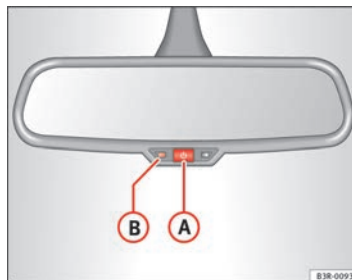

Fig. 104 Interior mirror with anti-dazzle setting: Indicator lamp and on/off switch
- Press button **A** ⇒ page 131, fig. 104. Indicator lamp **B** goes off.
- Press button **A** ⇒ page 131, fig. 104. Indicator lamp **B** turns on.